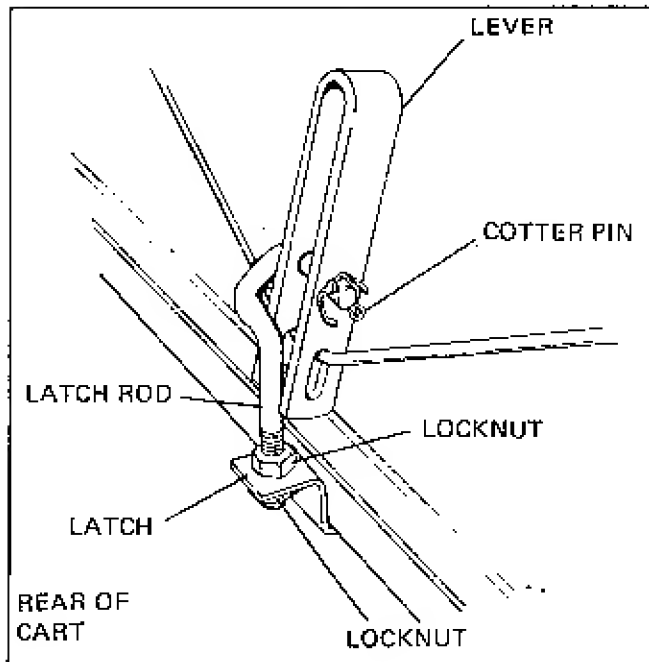
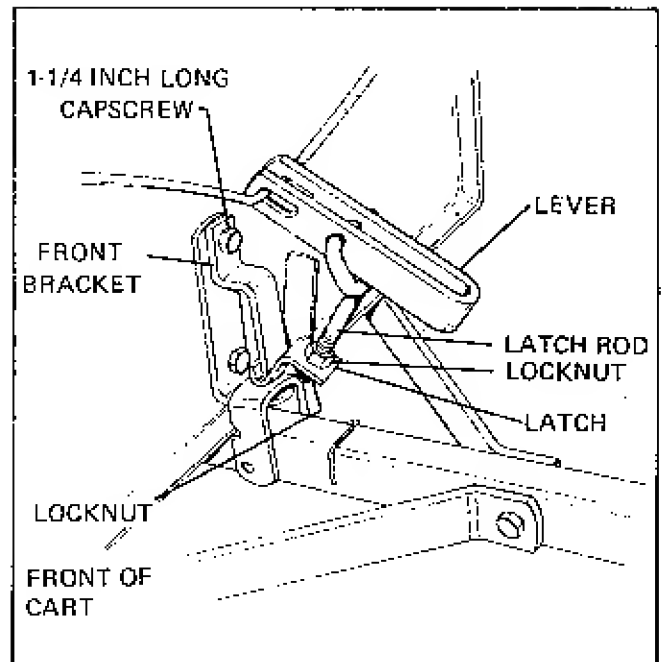

FIGURE 22
FIGURE 23
9. Secure bracket to front of cart with 1-1/4 inch long cap screw (Figure 23).
11. Insert rear latch rod through lever holes and secure it with a cotter pin (Figure 22). Install locknut, latch, and locknut on latch rod. With lever in closed position, adjust latch until it is securely hooked under cart. Repeat procedure for front side with latch tight under bracket (Figure 23).